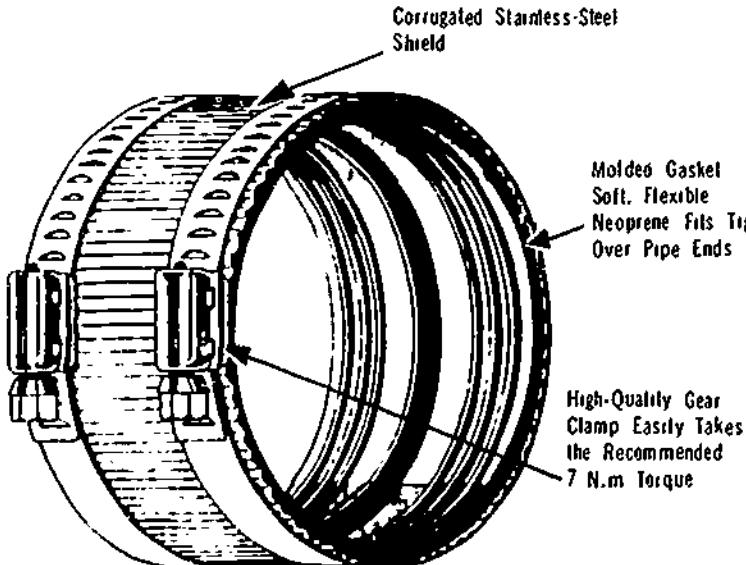

Figure 4-3. Components of Gear-Clamp Coupling
6. Two of the various types of clamps or couplings used for joining pipes and fittings are shown in Figures 4-3 to 4-6.